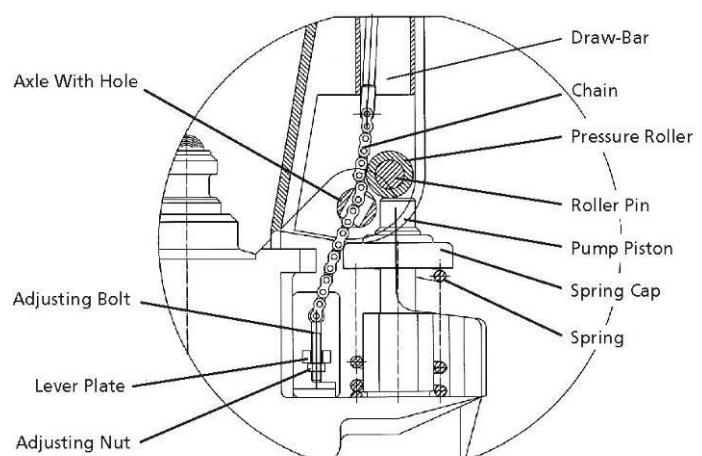
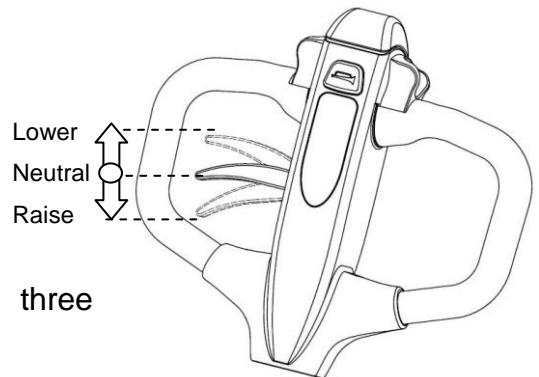

Fig. 7: Side view
Fig. 8: tiller
- b)** Set the control lever of the handle to the 'Lower' position, then pass the adjusting nut, adjusting bolt through the hole of the axle with your hand (fig. 7).
- d)** Set the control lever (fig. 8) of the handle to 'RAISE' position, then raise the lever plate and insert the adjusting bolt into the front slot of lever plate. Note: Keep the adjusting nut under the lever plate. (fig. 7)
The ESET33N multifunction tiller can be regulated in three positions (fig. 8):
If necessary, you can adjust the lever according to following steps (fig. 7):